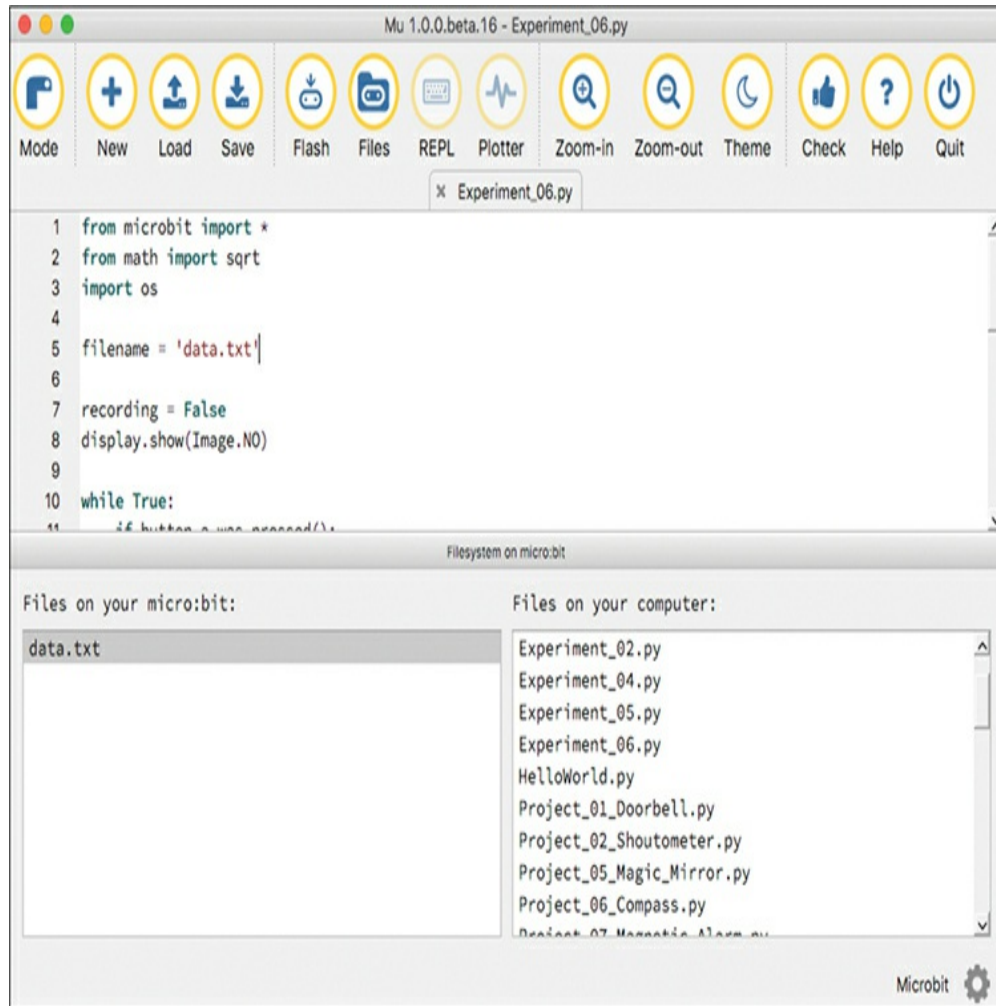

Figure 5-9: Mu’s File feature in action
3. To transfer the file containing the readings to your computer, use Mu's *Files* feature. Connect your micro:bit to your computer with a USB cable and click the **Files** icon in Mu's toolbar (Figure 5-9).
The bottom of the window now has two columns. On the left are the files saved on the micro:bit. In Figure 5-9, there is only one file, *data.txt*. On the right are the files in Mu's code directory, which is in your home directory under *mu code*.